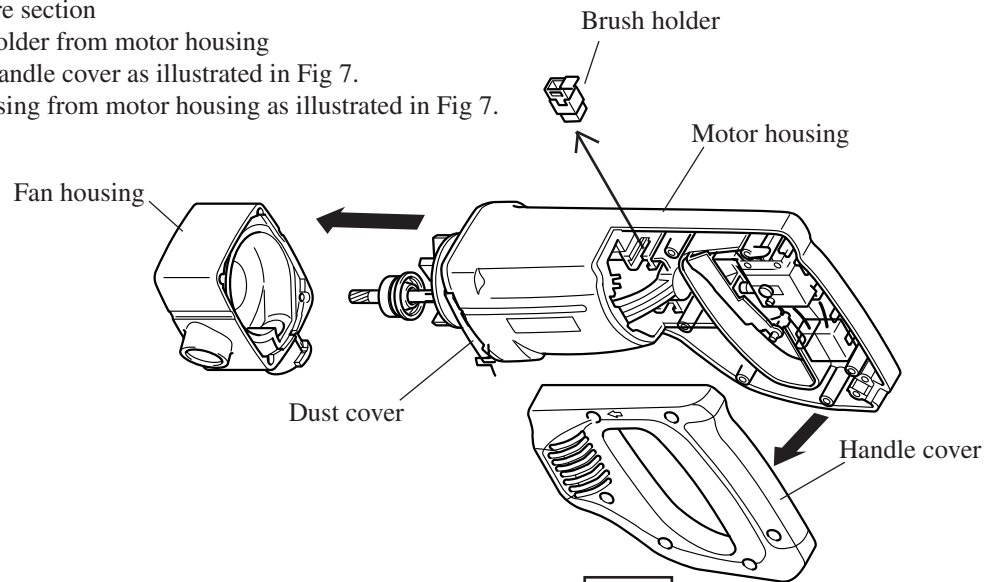

Fig. 7
- 1) Remove brush holder from motor housing after taking off handle cover as illustrated in Fig 7.
- 2) Remove fan housing from motor housing as illustrated in Fig 7.